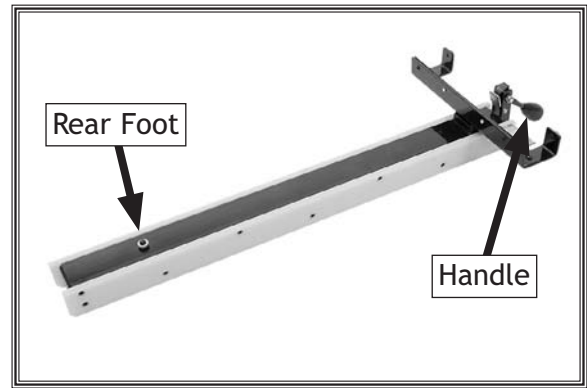

Figure 24. Fence assembled.
1. Attach the fence handle to the fence and thread the rear rail foot into the bottom of the fence (see **Figure 24**).